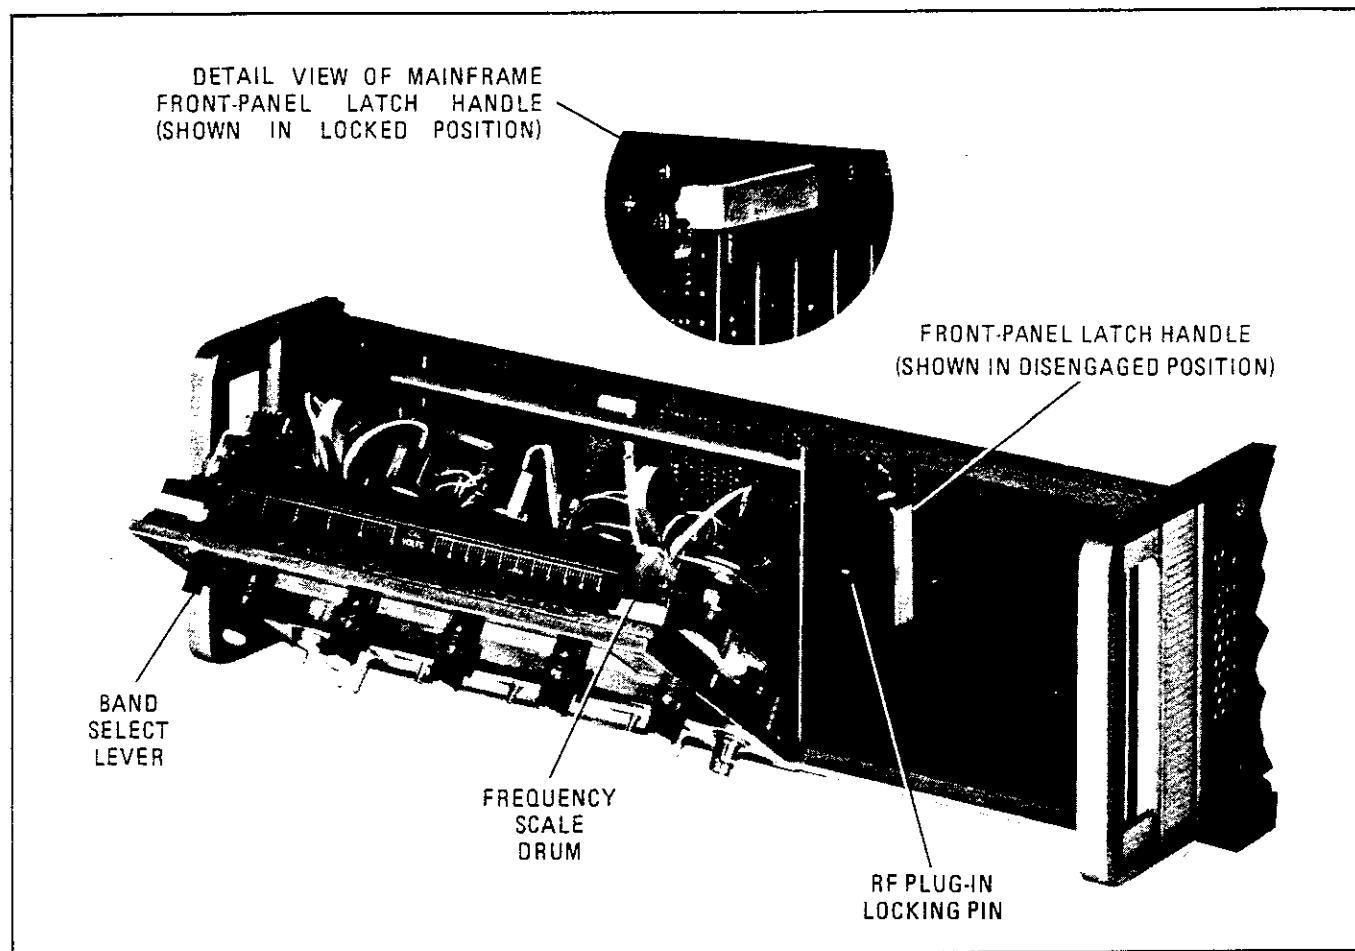

Figure 2-4. Location of Mainframe Parts Pertinent to Frequency Scale and RF Plug-in Installation
- Disengage mainframe front-panel latch handle, shown in Figure 2-4, by pushing downward on handle while pushing inward lightly on top of front panel.
- Depress mainframe front-panel BAND select lever, shown in Figure 2-4, to rotate frequency scale drum until desired scale position is accessible.
- Return front panel to upright (closed) position, and, while pushing inward lightly on top of front panel, re-engage front-panel latch handle by pushing it upward to lock position as shown in Figure 2-4, exploded view.